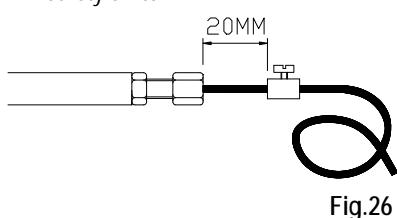

Fig.26
7. Pull the cable out until the pulley of the safety switch is in the most outer position. Secure the second clamp on 20-mm (Fig.26) of the adjusting screw. Check that the safety-cable is working properly by testing the safety switch.